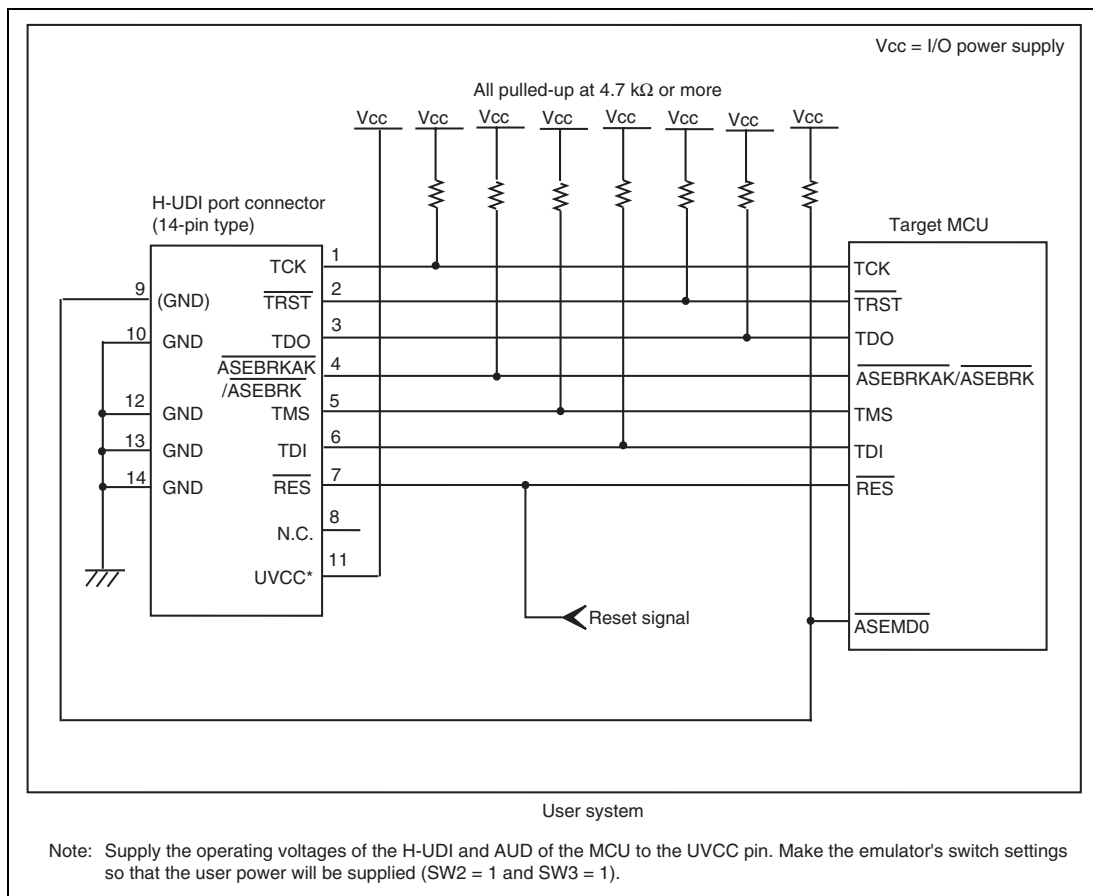

Figure 1.4 Recommended Circuit for Connection between the H-UDI Port Connector and MCU when the Emulator is in Use (14-Pin Type)
Figure 1.4 shows a recommended circuit for connection between the H-UDI port connector (14 pins) and the MCU when the emulator is in use.
(1) When the emulator is used: `_ASEMD0` = 0
(2) When the emulator is not used: `_ASEMD0` = 1
Figure 1.4 shows an example of circuits that allow the `_ASEMD0` pin to be GND (0) whenever the emulator is connected by using the user system interface cable.
6. The resistance value shown in figure 1.4 is for reference.
When the circuit is connected as shown in figure 1.4, the switches of the emulator are set as SW2 = 1 and SW3 = 1. For details, refer to section 3.8, Setting the DIP Switches, in the SuperH™ Family E10A-USB Emulator User's Manual.